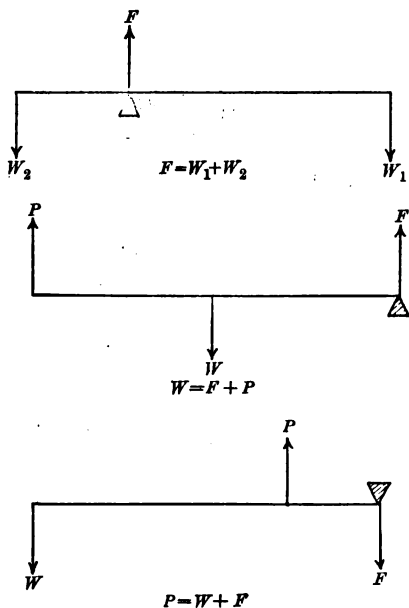

FIG. 15. — Force exerted by fulcrum of lever.
**22. Force at the fulcrum.** It must not be forgotten that in examples of the lever, the fulcrum itself exerts a force, that is, a push or a pull. When the fulcrum is between the two weights, it evidently has to push up an amount equal to the sum of the weights; that is (Fig. 15, top),  $F = W_1 + W_2$ .
ward push, which must be such that it and the upward pull ( $P$ ) are together equal to the weight. That is (Fig. 15, middle),  $W = F + P$ . When the fulcrum is at one end and the weight at the other end, it will be readily seen that the fulcrum has to push downward and that the upward pull ( $P$ ) must equal the sum of this downward push at  $F$  and the weight  $W$ . That is (Fig. 15, bottom),  $P = W + F$ . In short, it will be seen that in all these cases *the sum of the forces pulling up must equal the sum of the forces pulling down.*